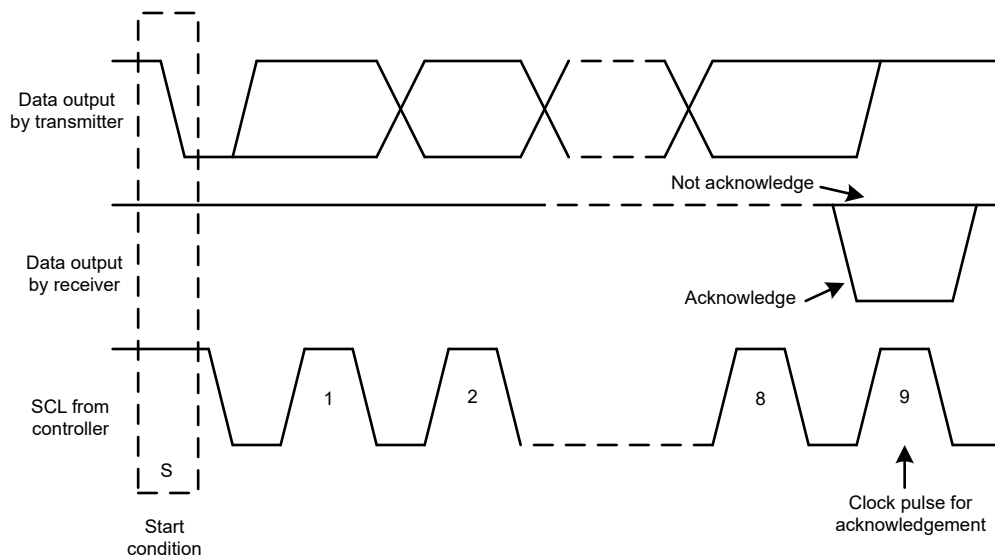
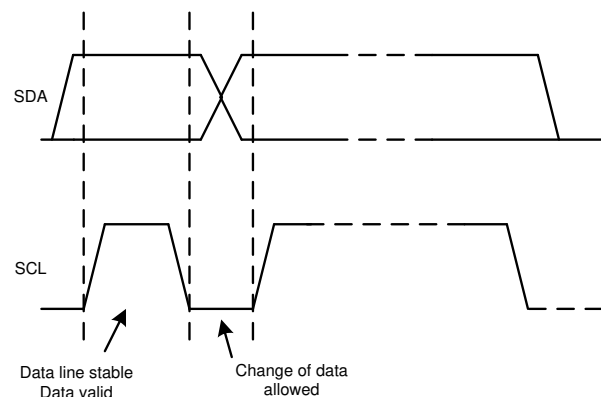

Figure 7-20. Acknowledge and Not Acknowledge on the I²C Bus
Figure 7-22. Bit Transfer on the I²C Bus
Other than specific timing signals, the I²C interface works with serial bytes. At the end of each byte, a ninth clock cycle generates and detects an acknowledge signal. An acknowledge is when the SDA line is pulled low during the high period of the ninth clock cycle. A not-acknowledge is when the SDA line is left high during the high period of the ninth clock cycle, as shown in Figure 7-20.
2. The controller then generates the SCL pulses, and transmits the 7-bit address and the read/write direction bit (R/\overline{W}) on the SDA line. During all transmissions, the controller makes sure that data are valid. A valid data condition requires the SDA line to be stable during the entire high period of the clock pulse, as shown in Figure 7-22. All devices recognize the address sent by the controller and compare the address to the respective internal fixed address. Only the target device with a matching address generates an acknowledge by pulling the SDA line low during the entire high period of the 9th SCL cycle, as shown in Figure 7-20. When the controller detects this acknowledge, the communication link with a target has been established.